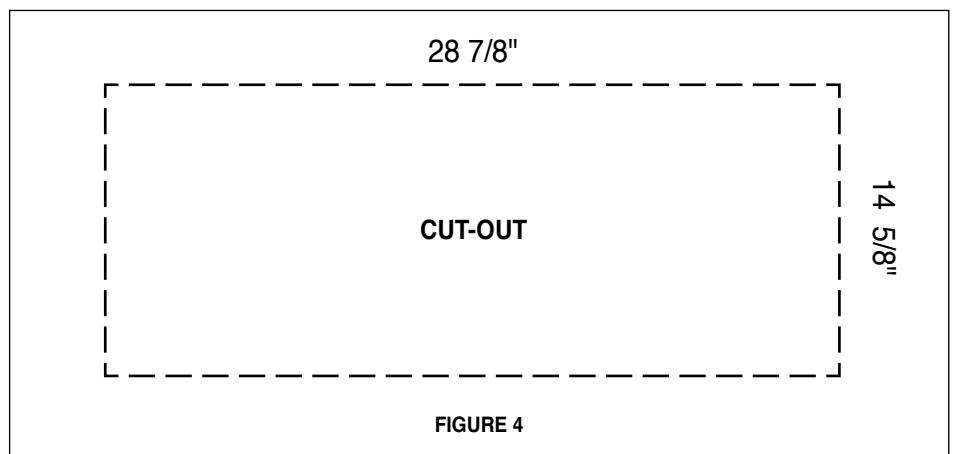

FIGURE 4
5. Make the cut-out opening where the rangehood will be installed (**FIGURE 4**).